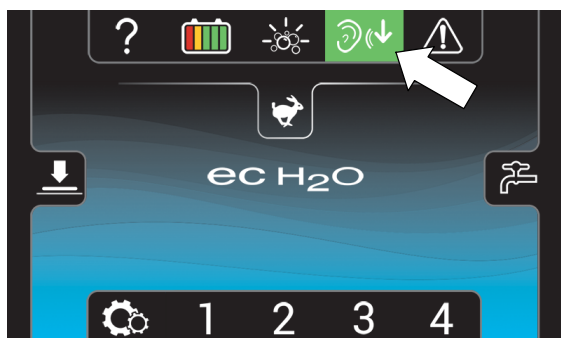

FIG. 54
7.  Press the quiet mode icon to reduce the vacuum motor sound for noise restricted areas (Figure 54). The icon will turn green when activated. Press again to turn off.